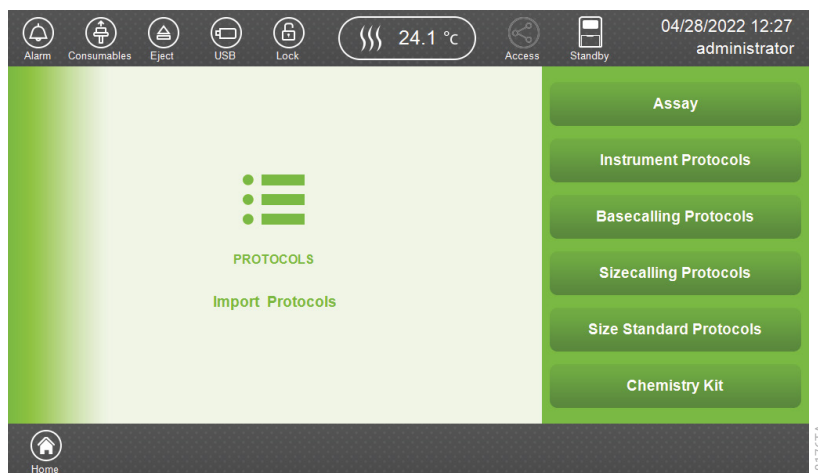

Figure 157. 'Import Protocols' screen.
3. Select **Chemistry Kit** to import the desired protocol (Figure 157). After this step, follow the procedure described in Section 7.5.2 Importing Protocols and Assays.